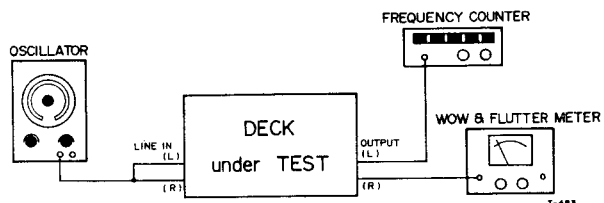

Fig. 7-10 Test Connections for Wow/Flutter and Tape Speed Test
The tape speed should be measured using TEAC flutter free tape, Model YTT-2003 (7-1/2 ips) and YTT-2004 (15 ips). These tapes contain a highly accurate 3,000 Hz tone. Connect a digital frequency counter to either line OUTPUT jack. See Fig. 7-10. The indicated frequency should be 3,000 Hz (± 30 Hz) for all speeds during playback of the tape.
1. Connect Test equipment to the deck as shown Fig. 7-10. (Except oscillator).
1. Connect Test equipment to the deck as shown Fig. 7-10.